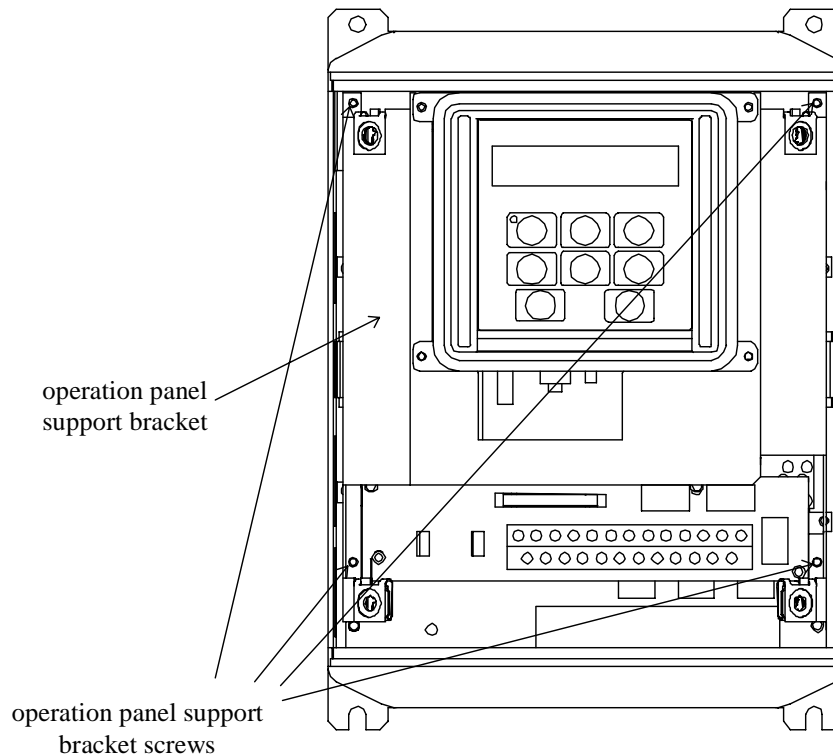

Figure 3: *G3 with front cover removed*
- Loosen the 4 screws attaching the operation panel support bracket to the control board support bracket and remove the operation panel and support bracket as a unit (refer to Figure 3).